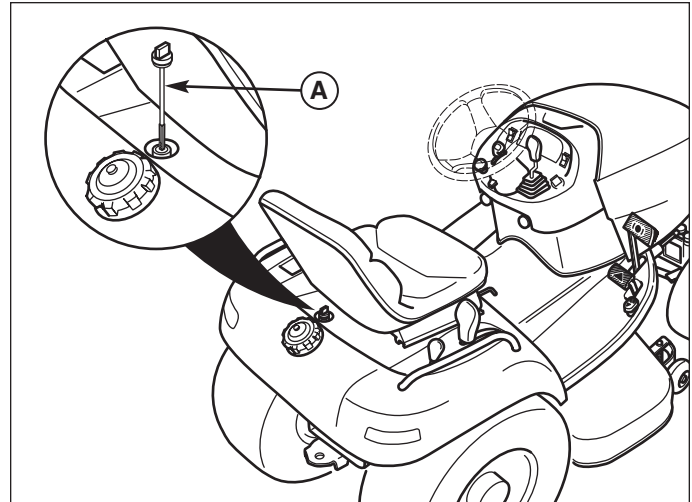

Figure 25. Transmission Fluid Check
1. Clean the area around the transmission dip stick (A, Figure 25).
2. Remove the dip stick (A) from the transmission and wipe it clean.
3. Add Type F transmission fluid through the oil fill (see Figure 25).
4. Run tractor for several minutes until transmission is warm and check fluid level using the dip stick (A, Figure 25).